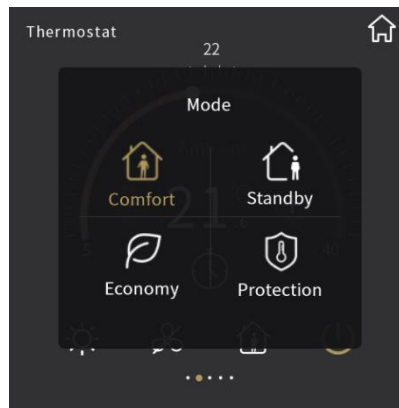

Fig.2.3.5
⑨ Enter the mode setting by touching this area, and will pop up a sub-window shown as figure 2.3.5.